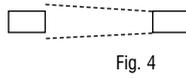

Fig. 4
Place emitter and receiver of the through beam as in (Fig. 4) press key (2x). LED illuminates signalling the set-up complete. To set the through beam, see paragraph "alignment help".